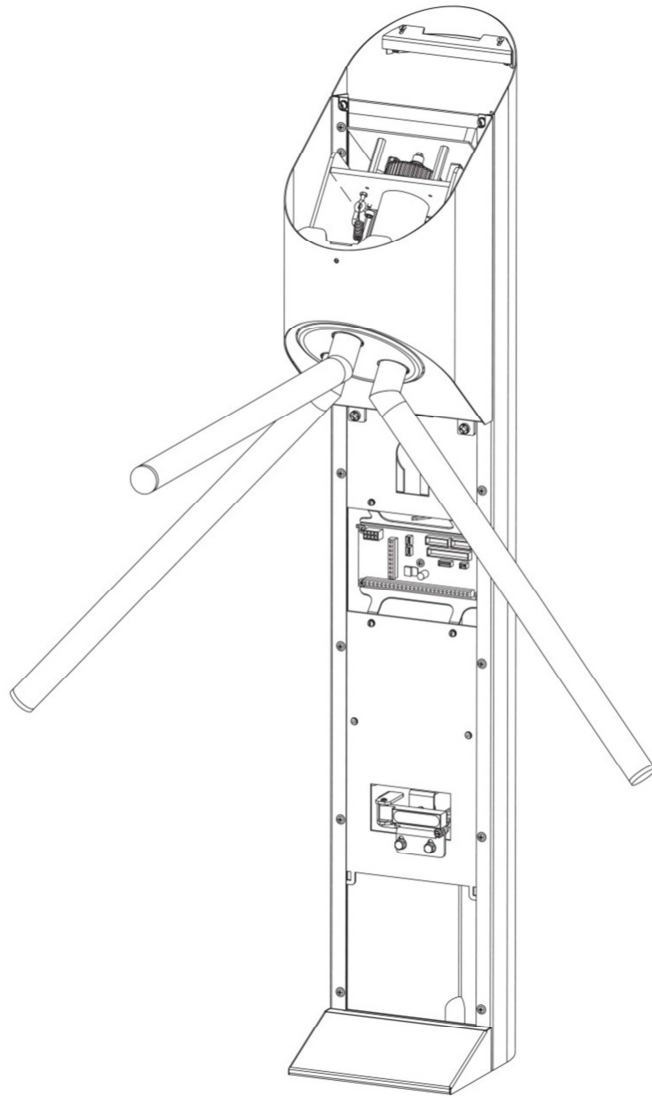

Fig. 5
3.3. Unlock the hatch and remove it (Fig. 5).